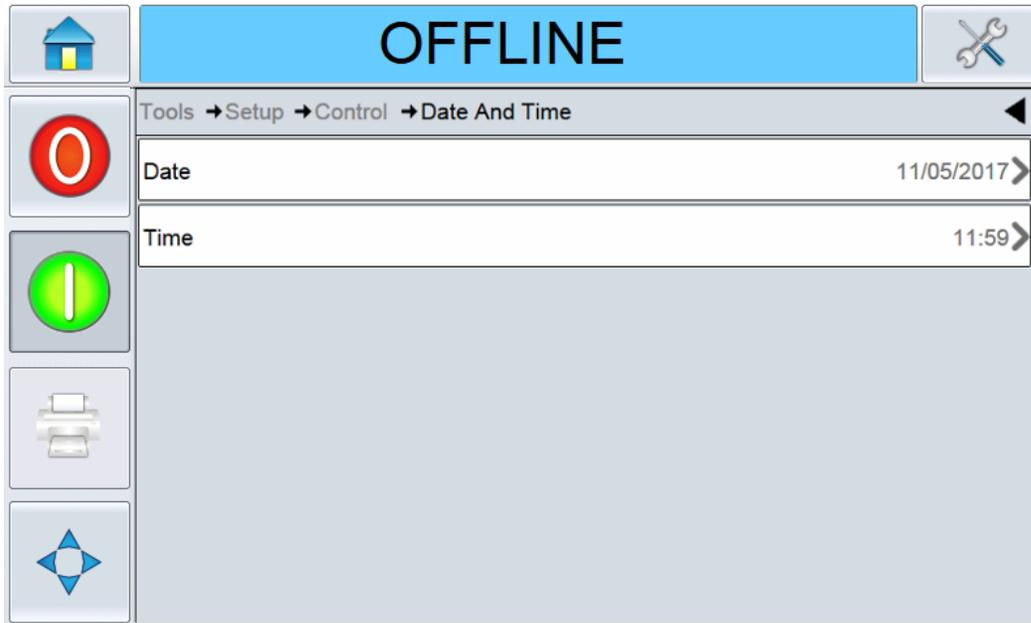

Figure 4-6: CLARiTY Controller Date and Time
1. Navigate to *Tools > Setup > Control > Date and Time* (see Figure 4-6).